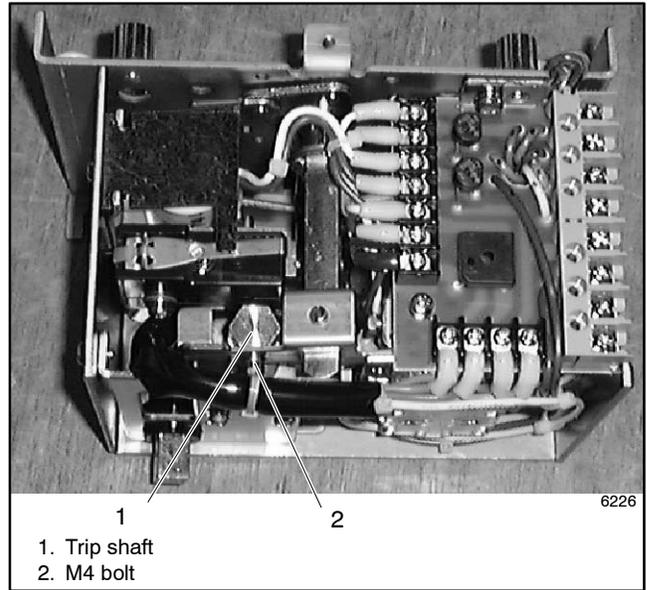
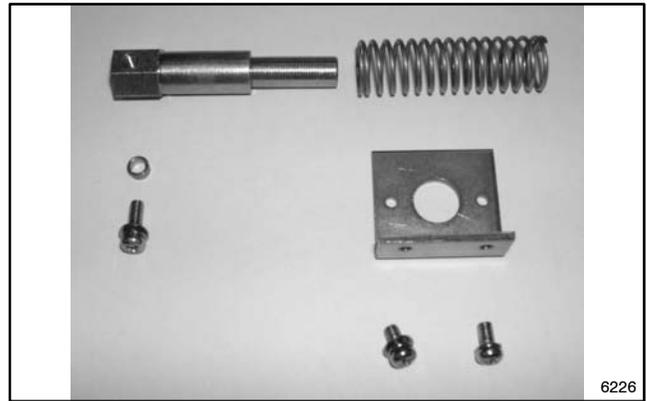

Figure 6-24 Trip Shaft Location
Figure 6-25 Trip Shaft Parts
4. The trip shaft is spring-loaded. Hold the shaft securely while removing the trip shaft bolt. See Figure 6-24. Remove the M4 bolt with ring, trip shaft, spring, and L-shaped bracket. See Figure 6-25. Keep the parts for reassembly later.